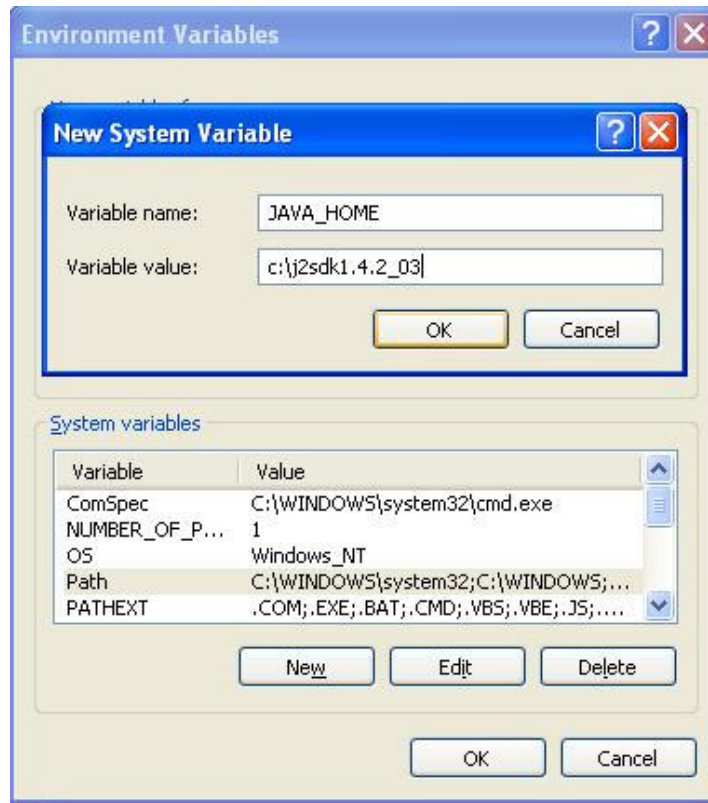

Figure 3-16. EMS server environment-5
5. Click Add button to JAVA_HOME. For instance JAVA_HOME = C:\j2sdk1.4.2_03. as Figure 3-16.